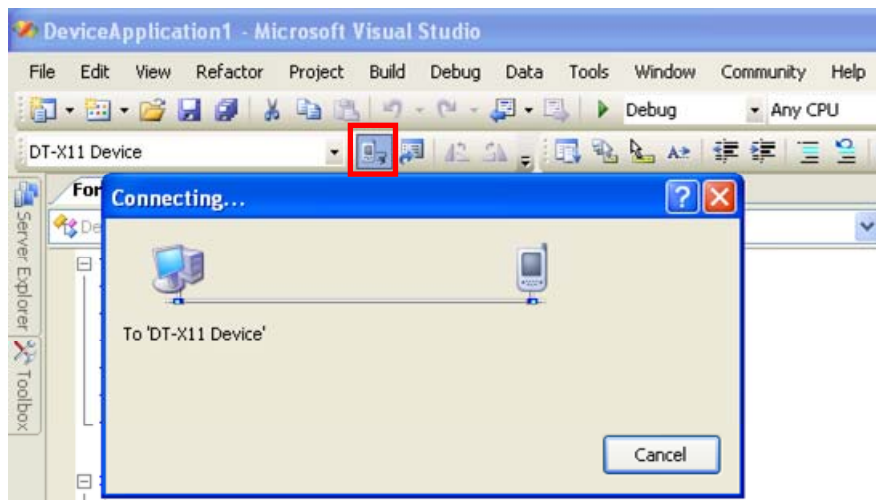

Figure 6.2
3. Click the button in square box drawn by red line (see Figure 6.2) to make sure that Visual Studio 2005 has recognized the connection established with the DT-X11 via ActiveSync. If it does not, start up ActiveSync again to establish connection.